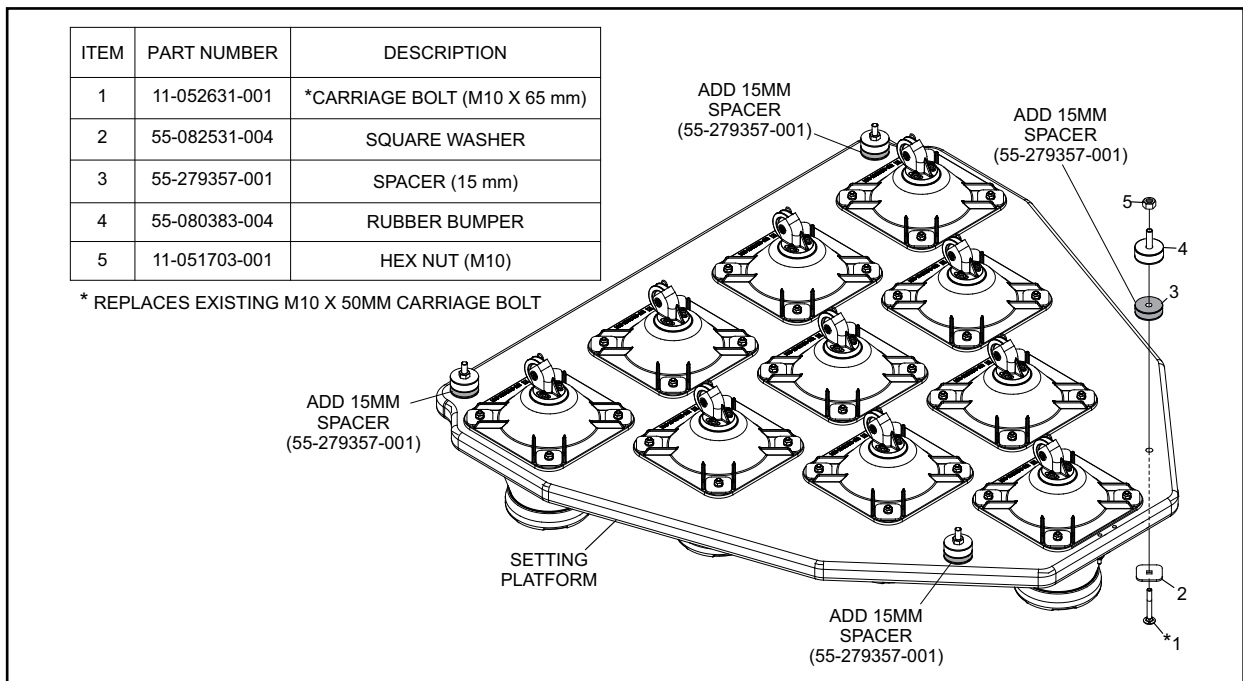

Figure 4. Install 15 mm Spacers Under Rubber Bumpers
6. Install 15 mm table mounting spacers, p/n 55-279357-001 under each of the table mounting bumpers. Use the existing hardware along with the included M10 x 65 mm Carriage Bolts to secure the spacer and bumper to the platform. Refer to *Figure 4*.